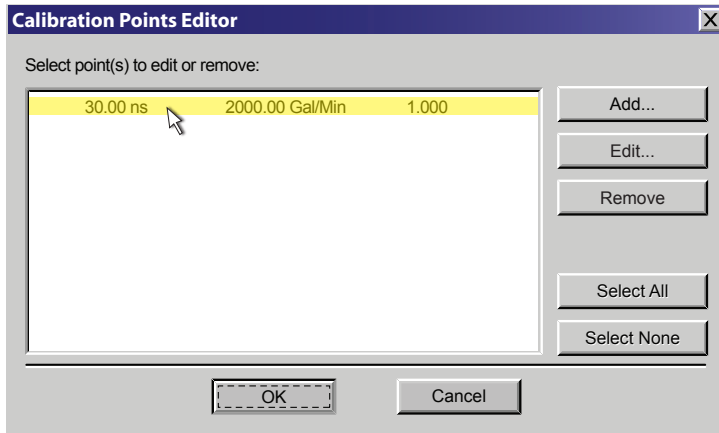

Fig. 15 Calibration Points Editor
- 5) If calibration point is displayed in Calibration Points Editor screen, record the information, highlight and click Remove. See *Fig. 15*.